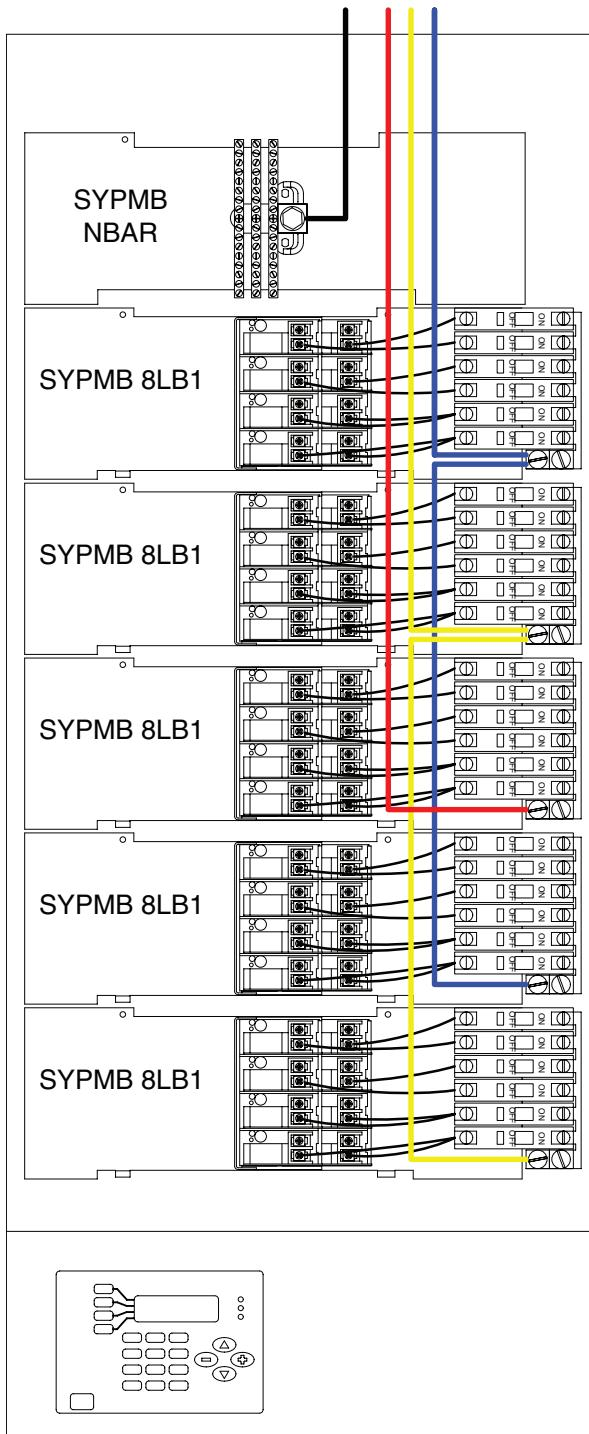

Figure 3 - Large Enclosure Module Population
- 6 **Connect Load Wiring as Shown in Figure 3**